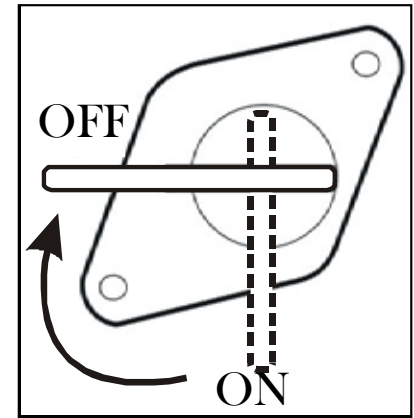

Fig. 13 - Fuel Valve
1. Turn the fuel valve to the “OFF” position (Fig. 13).